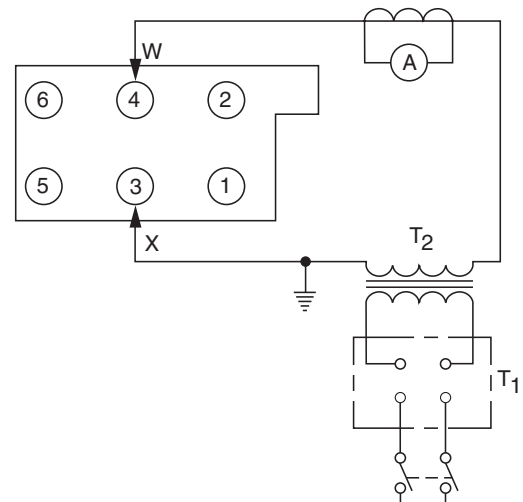

Figure 24. Test circuit for checking ground-trip accessory
A suggested test circuit is shown in Figure 24. The following equipment is required for the recommended test setup:
1. Connect low-voltage test leads X and W to the bushings of either Phase B or Phase C (terminals 3 and 4 or 5 and 6, Figure 24).